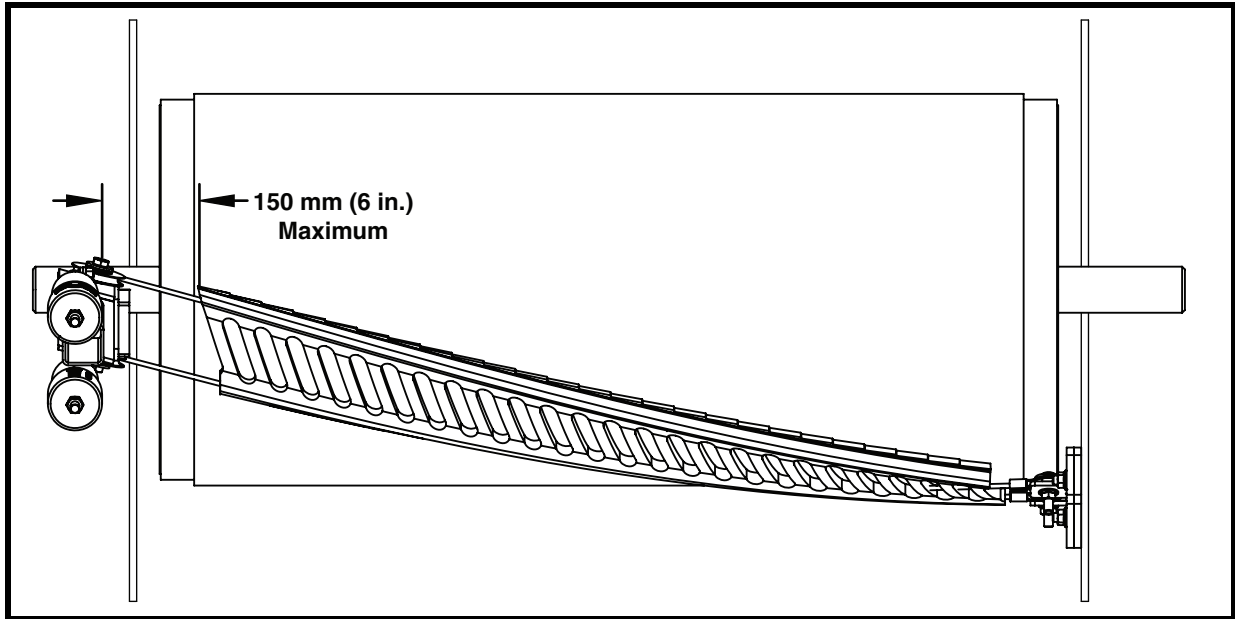

Figure 4. Installations with Wide Chute Walls
- f. The distance between the cleaner and the chute wall should be minimized. Martin Engineering recommends keeping the distance to 150mm (6 in.) maximum per side (see Figure 4). Excess chain or cable could result in vibration that could damage the belt or the cleaner. If necessary, build a sub-wall to support the tensioners in the proper position. Consult Martin Engineering for installation assistance if parameters fall outside of this range.